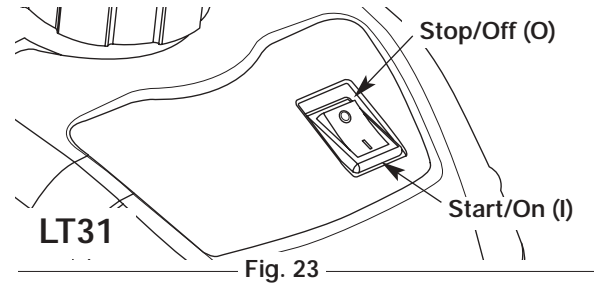
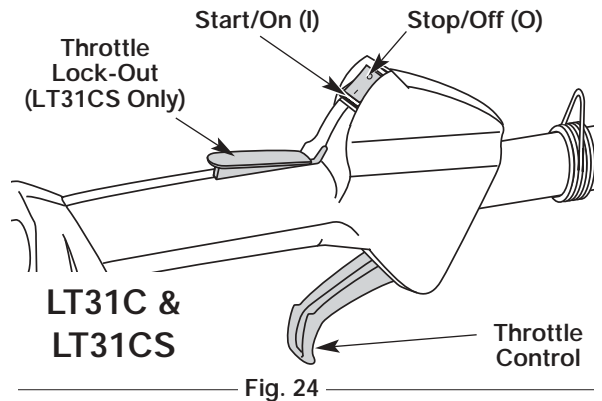

Fig. 23
Fig. 24
2. Make sure the On/Off Stop Control in the ON (I) position (Fig. 23 or Fig. 24).